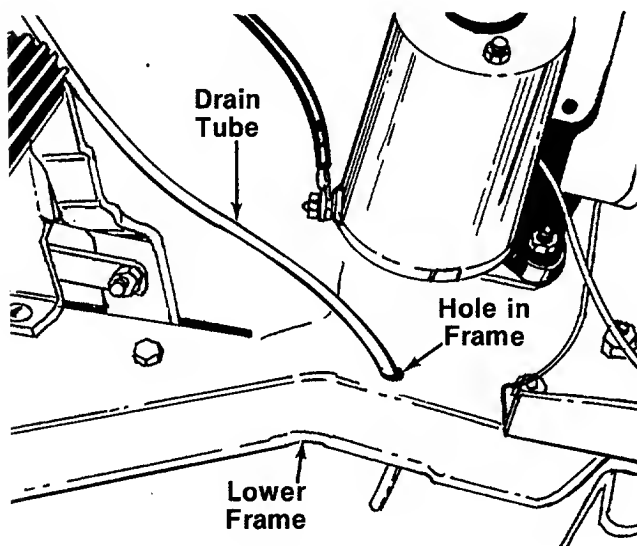

FIGURE 6.
8. Route the battery drain tube forward to the hole provided in the lower frame beside the engine. See figure 6.